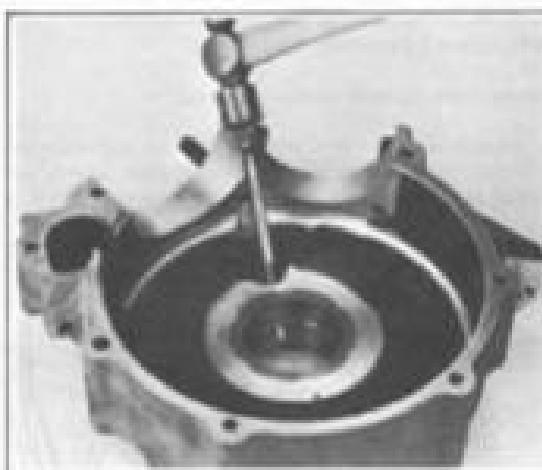

Figure 3-34. Removing Lock Ring
7. If left main bearing is to be replaced, tap out bearing races (11 and 12) from opposite sides of crankcase hole, using a brass drift and hammer. Remove lock ring-spacer (12) using a pin punch or similar tool. Rotate lock ring in groove so that one edge covers oil hole. Insert tool into oil hole with tapered end underneath lock ring. Tap on tool to force one end out of groove as shown in Figure 3-34. Starting at this free end, push ring out of bearing bore.